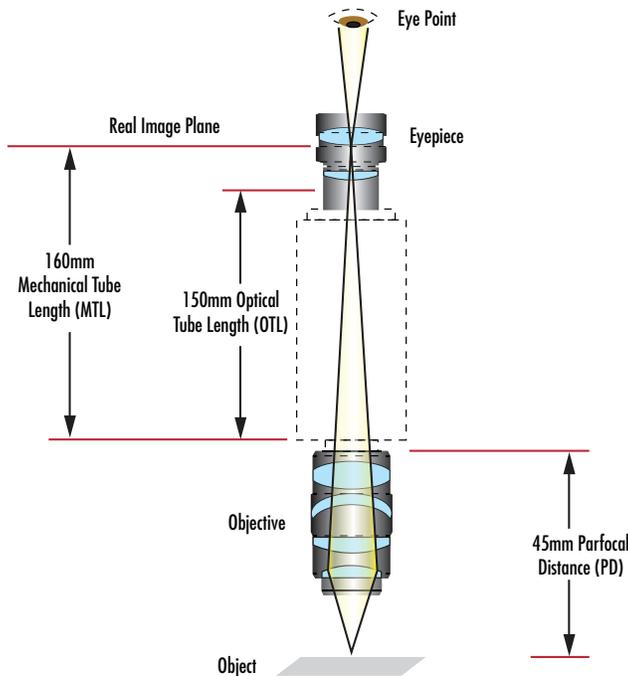

Figure 8: DIN Standard
If the objective follows a simple microscope standard (such as DIN or JIS) then it is listed on the body to show what required specifications must be present within the system. Most compound microscopes employ the Deutsche Industrie Norm, or DIN, standard. The DIN standard has a 160mm distance from the objective flange to the eyepiece flange (Figure 8). The other available standard is the Japanese Industrial Standard, or JIS. The JIS standard has a 170mm distance from objec-
DIN and JIS have historically been used when considering a classic compound microscope. Some microscope manufacturers prefer to list the tube lens length by the optical properties instead of the mechanical. For a DIN standard objective, this changes the tube lens length to 150mm because the eyepiece is imaging the intermediate image plane (Figure 8). Lastly, there
is a dimension typically listed for objectives to allow the user to consistently know what length it is: the parfocal distance (PD). The parfocal distance is the distance from the flange of the objective to the object under inspection. For DIN objectives this distance is a standard 45mm and for JIS it is 36mm (Figures 8 and 9).